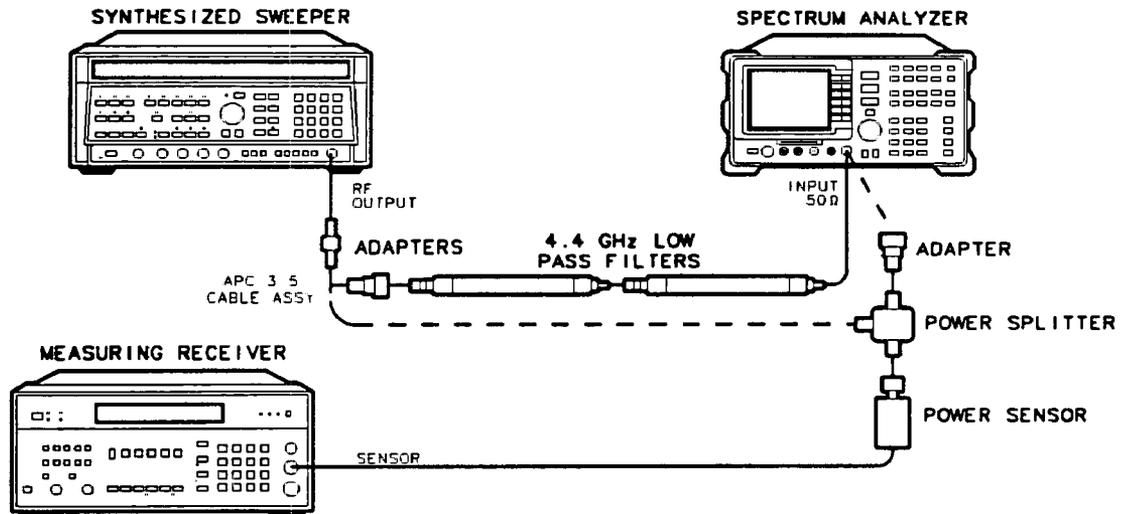

Figure 4-19. Second Harmonic Distortion Test Setup, >2.9 GHz
11. Connect equipment as shown in Figure 4-19, with the output of the HP 8340A/B connected to the input of the power splitter, and the power splitter outputs connected to the HP 8592B and the power sensor.
21. Connect the equipment as shown in Figure 4-19 with the filters in place.